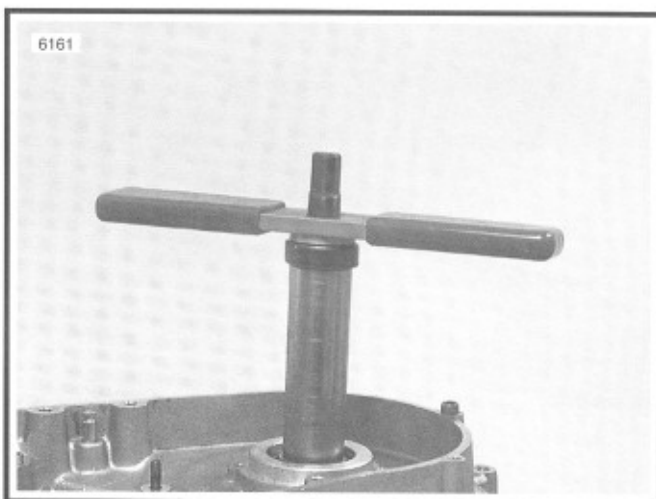

Figure 3-99. Installing Flywheel Spacer and Outer Bearing
- a. See Figure 3-99. Carefully place crankcase half over sprocket shaft so that it rests flat on inner bearing.